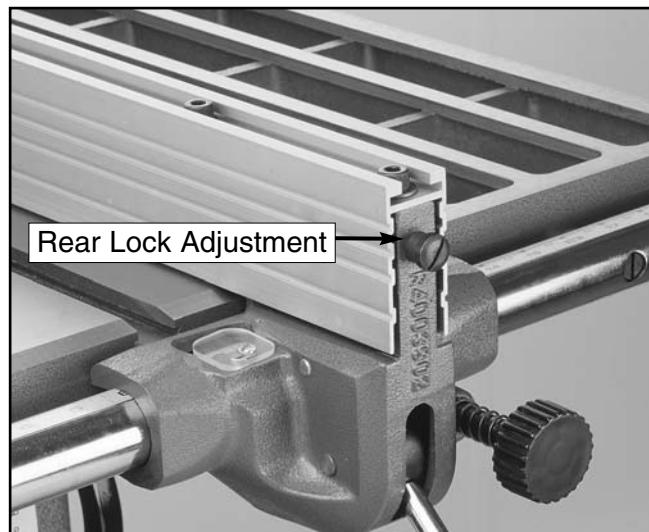

Figure 37. Rear lock adjustment screw.
- Loosen the rear lock adjustment, the slotted screw on the front of the fence shown in **Figure 37**, until the rear locking lever ceases to engage the rear rail with the fence in the locked position.